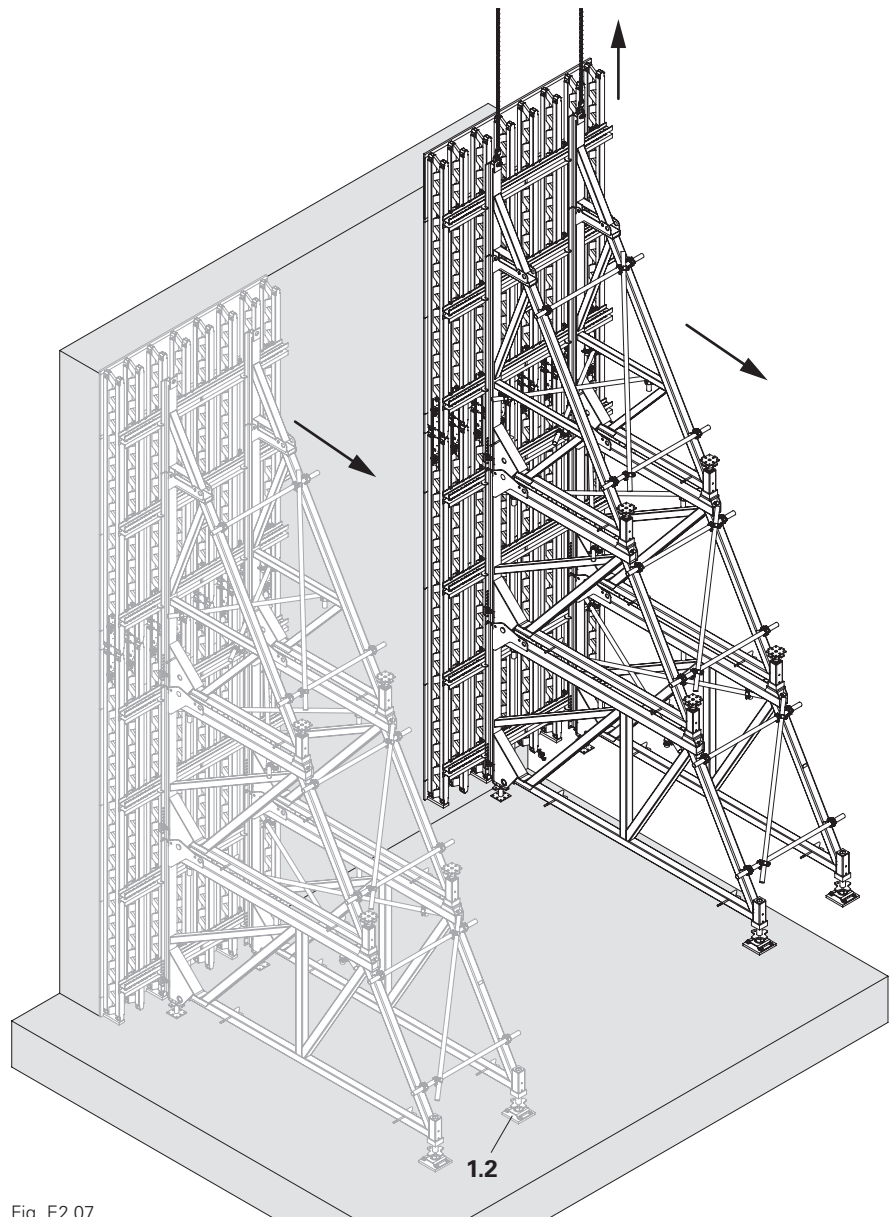

Fig. E2.07
- SB-A0, A, B: with Spindle Base SB-A0/A/B (1.2). (Fig. E2.07)